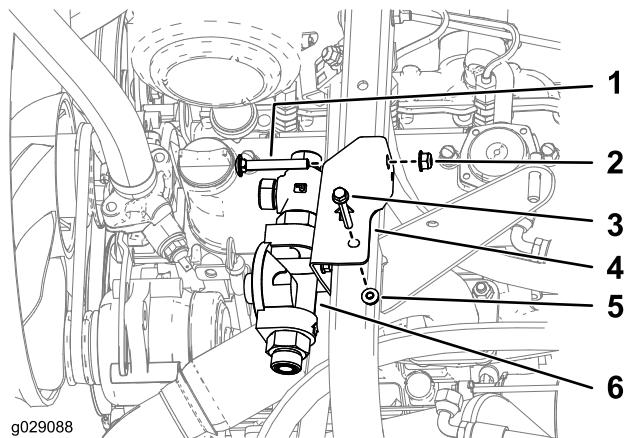

Figure 12
3. Secure the hydraulic-filter assembly to the frame as shown in Figure 12.